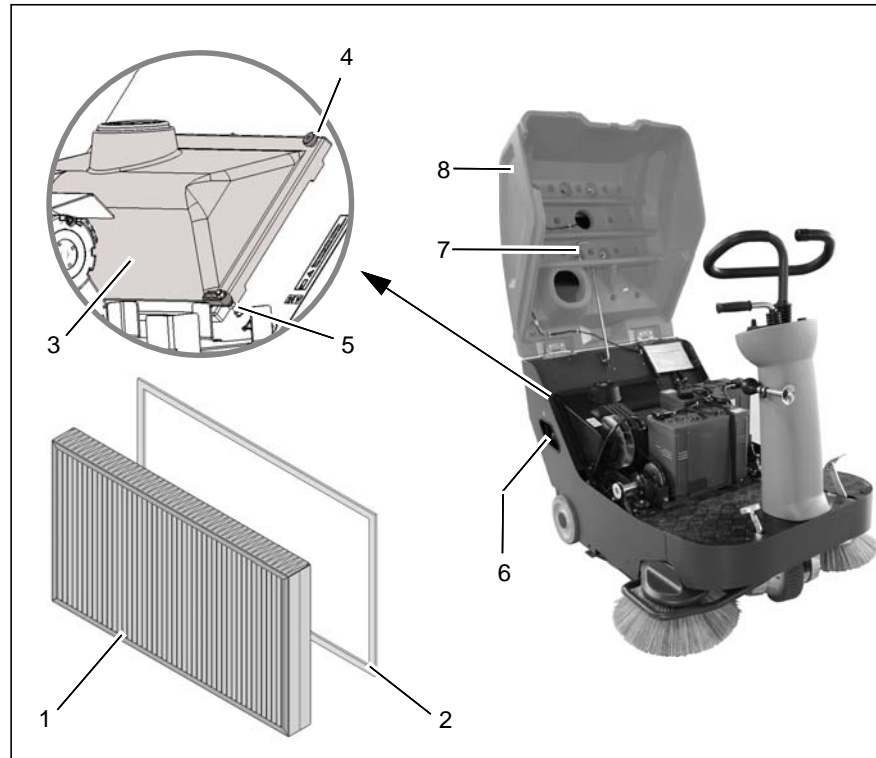

Fig. 24
Clean the panel air filter (Fig. 24/1) in the dust vacuum regularly and as necessary using the shaking device:
2. Pull and push the lever (Fig. 24/6) of the shaking device in and out several times in succession.
Check the panel air filter (Fig. 24/1) and seal (Fig. 24/2) on a weekly basis and change them in the case of wear.
2. Open the seat console (Fig. 24/8) and secure with the safety support (Fig. 24/7).
3. Loosen the knurled nuts (Fig. 24/4) and locking handle (Fig. 24/5) and remove the hood (Fig. 24/3).
4. Check the panel air filter (Fig. 24/1)
and seal (Fig. 24/2) and clean or change them as necessary.
Drop the panel air filter (Fig. 24/1) from a minimal height a few times onto a level, solid surface. Be careful not to damage the filter ribs!